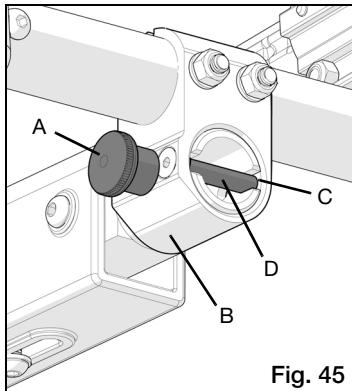

Fig. 45
- a. To remove, pull the release knob (Fig. 45:A) to disengage the locking pin and slide assembly out of the tubular receiver (Fig. 45:B).
- b. To insert assembly, pull release knob (Fig. 45:A) and insert assembly into tubular receiver (Fig. 45:B).
- c. Rotate the assembly in receiver to align slot (Fig. 45:C) and cross pin (Fig. 45:D).
- d. Release knob (Fig. 45:A).